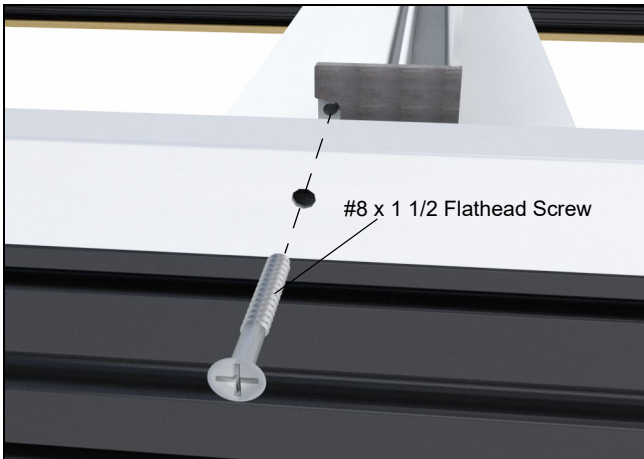

Figure 90
9. Ensure hole is lined up with screw boss in pocketing interlock. See figure 90.